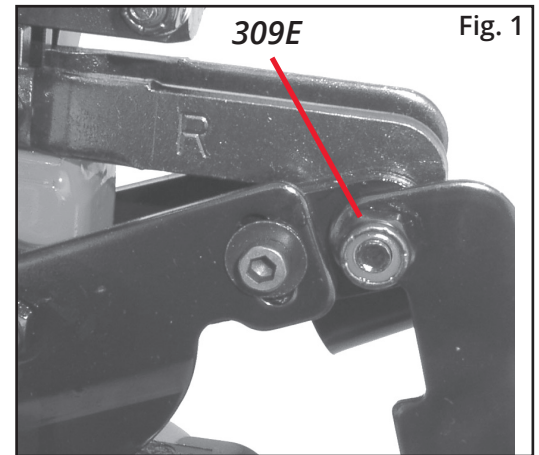
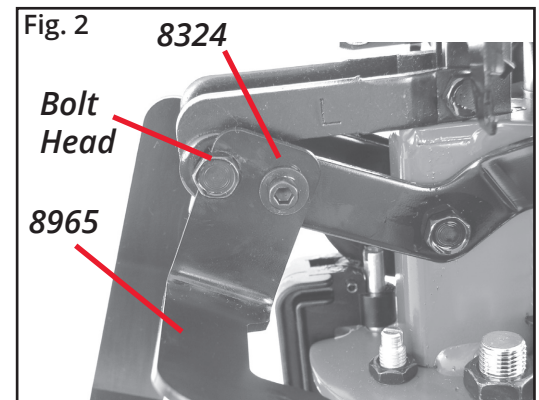

Fig. 1
Fig. 2
**Step 4** - Remove lock nut (309E) from link bolt (Figure 1) and start shorter lock nut (8982) do not tighten yet. Slide this bolt to the left about 1/4" and slide the slot of actuator arm (8965) between the head of the bolt and link (Figure 2). Align the slot of the actuator arm with the hole in handle or hydraulic link strap, using 5/32 allen wrench, attach with (623C) washer and self-tapping screw (8324). Tighten actuator arm down about in the middle of the slot being careful not to over tighten. Now tighten the (8982) lock nut on the link bolt and back off 1/4 turn to allow the links to pivot. Note: On hydraulically operated machines, depress the pedal to make sure that the actuator arm (8965) does not contact the truss rod when the machine is in the down position. If it does, loosen the bolt that attaches the truss rod to the base and move it in slightly towards the machine and retighten.